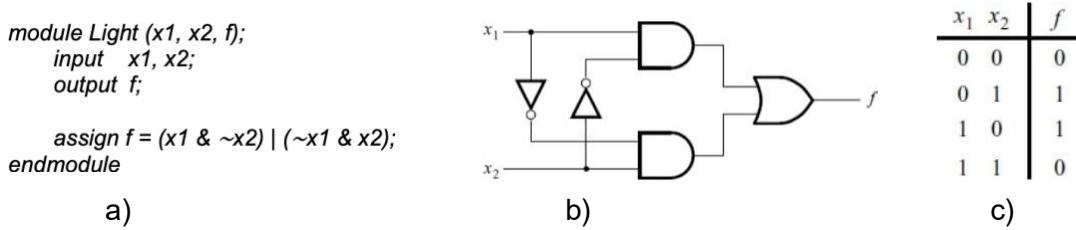

Figure 1: Two-way lamp controller (credit: Altera): a) Verilog code, b) schematic, c) truth table
1. Similar to “HelloWorld” when learning a new programming language, like C or Python, you will need to execute a similar simple test of functionality. For our test we will implement a two-way light controller (credit: Altera document “Quartus II Introduction Using Verilog Design”) from Figure 1.
2. As a new project, implement the two-way lamp controller using Verilog design entry Primitive Gate Modelling as shown in Fig1-a). You will be asked to test this in lab by writing to the FPGA and making necessary connections. [5 marks]
3. As a new project, implement the two-way lamp controller using Verilog design entry Schematic Capture Modelling as shown in Fig1-b). You will be asked to test this in lab by writing to FPGA and making necessary connections. [5 marks]